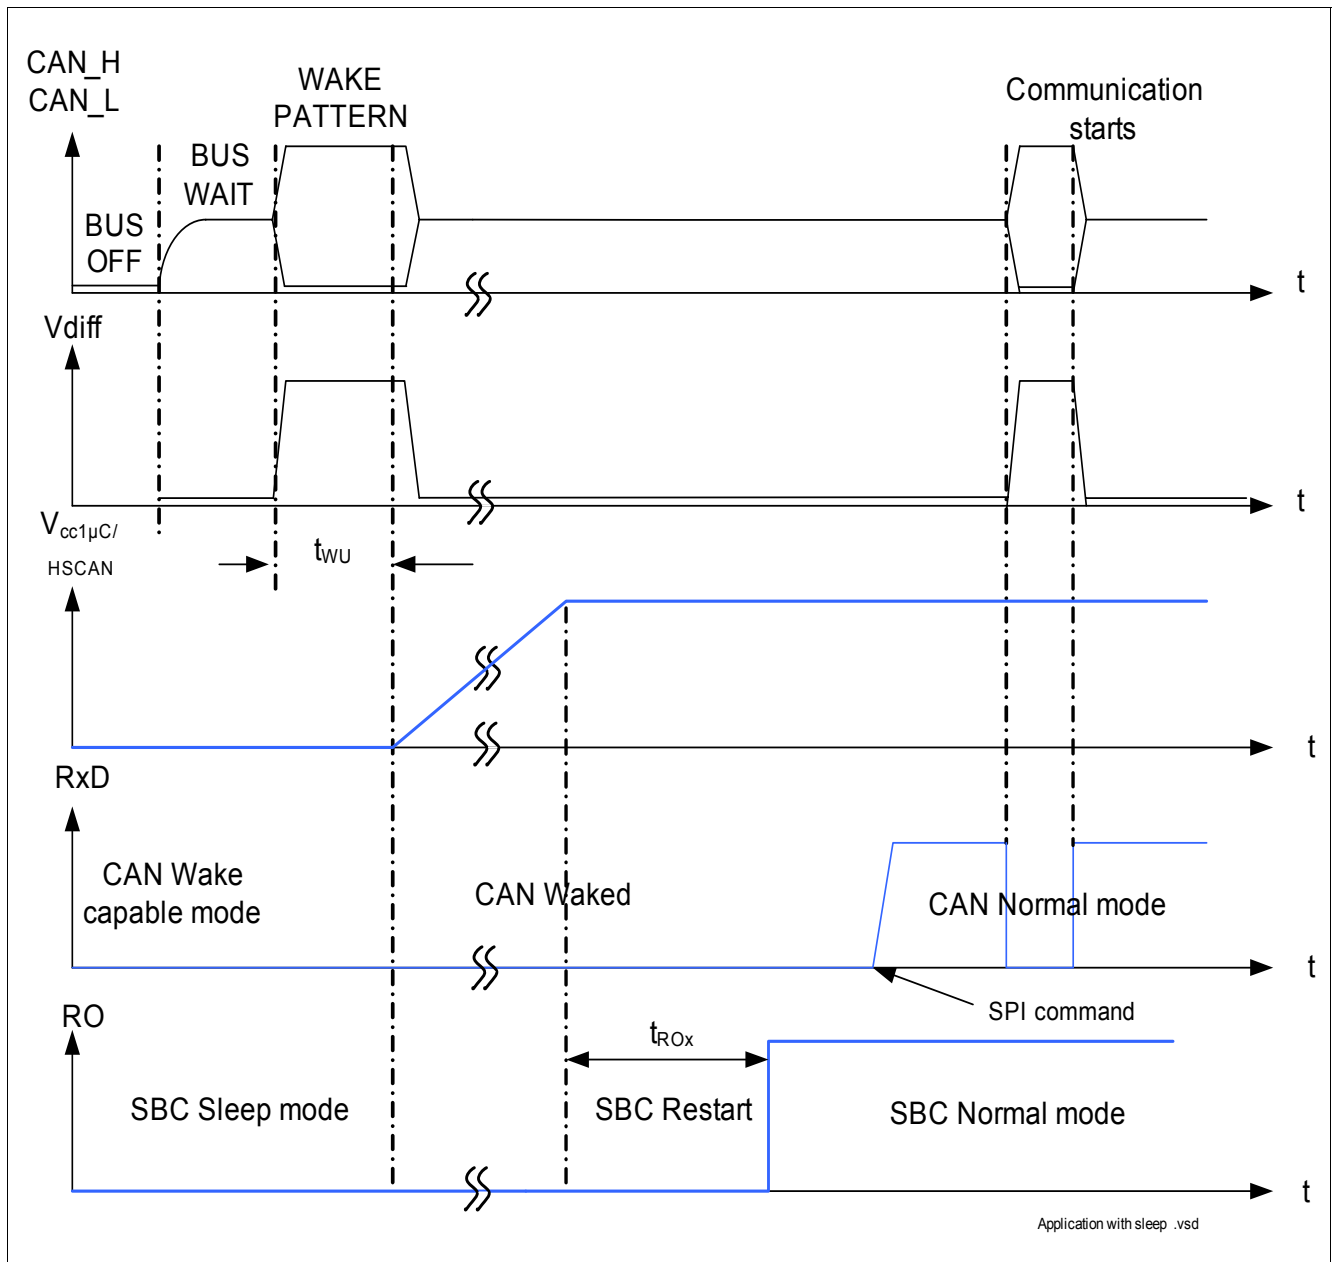

Figure 13 Timing during Transition from Sleep to Normal Mode
Refer to Figure 13 for a description of the matching of the transceiver modes with the SBC mode.
Wake-up is possible via a CAN message (filtering time $t > t_{WU}$), it automatically transfers the SBC into the SBC Restart Mode and from there to Normal Mode the RxD pins in set to LOW, see Figure 13. The microcontroller is able to detect the low signal on RxD and to read the wake source out of the "Wake Register Interrupt" register (000) via SPI. No Interrupt is generated when coming out of Sleep Mode.
In SBC Sleep Mode, a wake-up on the CAN cell will set the SBC to Restart Mode automatically if the CAN Wake Capable Mode of the SBC is selected via SPI. **Figure 13** shows the typical timing.